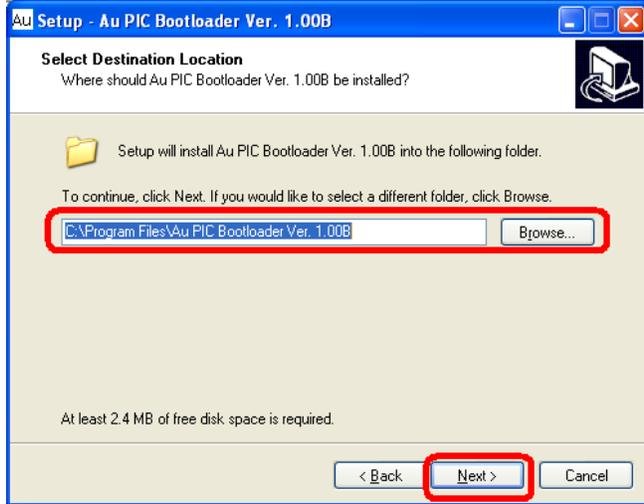

Figure B-4
4. “Select Destination” window shows up, use default path: C:\Program Files\ AU PIC Bootloader”, then click “next” to continue (Figure B-4).